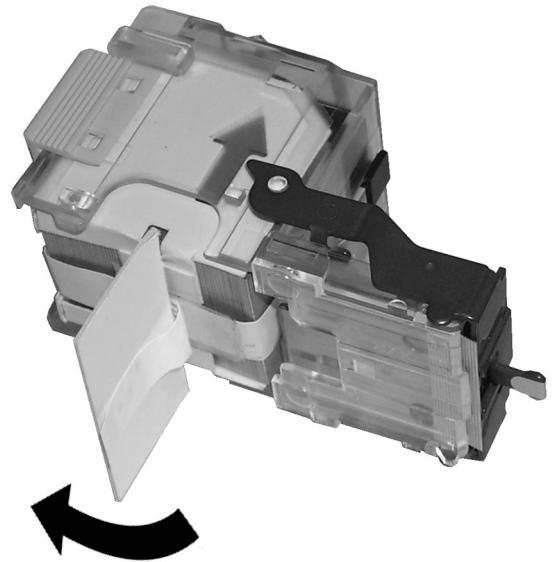

Figure 7: Removing the paper tape from the Staple Pack
- 7 Remove the white paper strip from the Staple Pack (Figure 7).